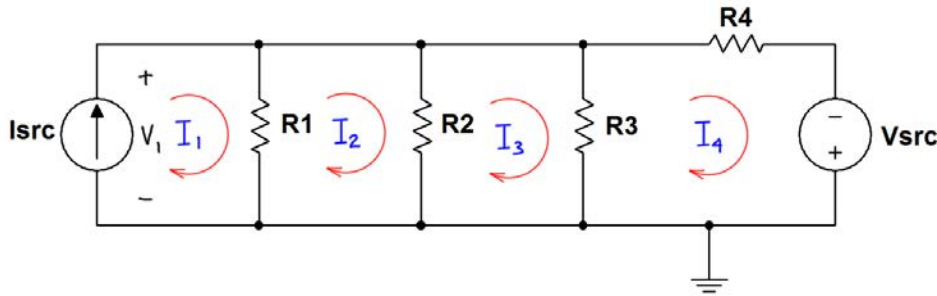

Figure 3.2: Circuit for Problem 3.2
Enter the circuit of Figure 3.2 into NI Multisim. Use “Measurement Probes” and interactive simulation to measure the four mesh currents. Use the multimeter or a measurement probe to display the voltage across the current source.
Build the circuit of Figure 3.2 on the previous page. Use the myDAQ DMM (digital multimeter) as an ammeter to measure each of the four mesh currents; use the DMM voltmeter to measure the voltage across the current source.
- Place the resistors to match the resistor orientations shown in Figure 3.2 on the preceding page. Use 1-inch jumper wires to establish the top connections between the resistors to facilitate measurement of the mesh currents.